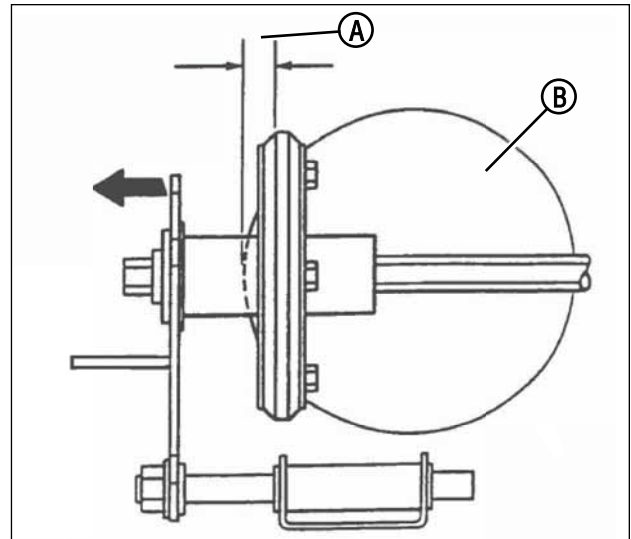

Figure 28: Proper driven disc adjustment
3. Slide the driven disc assembly over to 1/8" (A, Figure 28) from the outside edge of the drive disc (B).